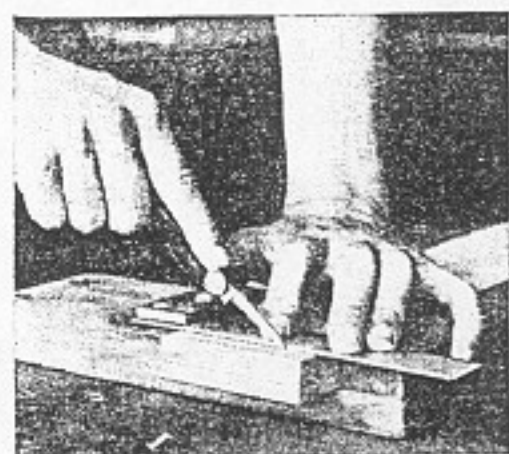
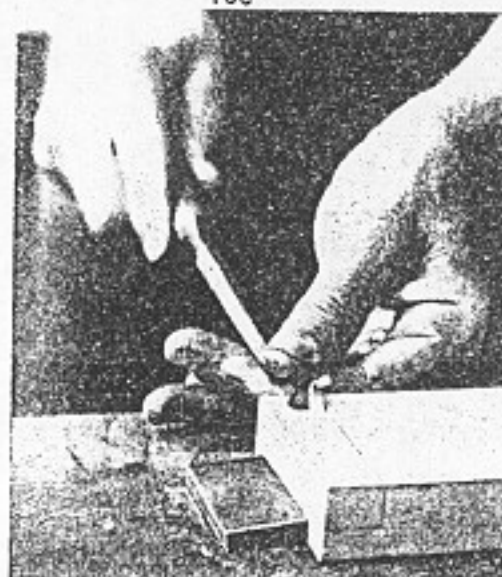
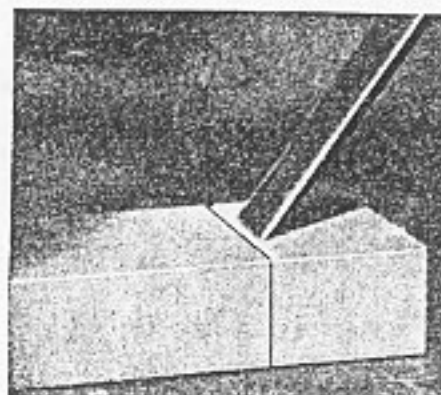

Fig. 173. Scoring line with knife.
Fig. 174. Cutting triangular groove with chisel.
Fig. 175. Cutting triangular groove with bevel of chisel down.
4. To cut the groove, the board is held in the bench hook, or it is clamped in the vise, a try-square is placed right on the line, and it is cut with a knife along its blade (Fig. 173). The board is clamped on the bench, and a groove is cut on the waste side of the line with a chisel, holding the beveled side of the chisel up (Fig. 174). The groove can also be made by chiseling obliquely against the knife cut. The bevel of the chisel is held down (Fig. 175).